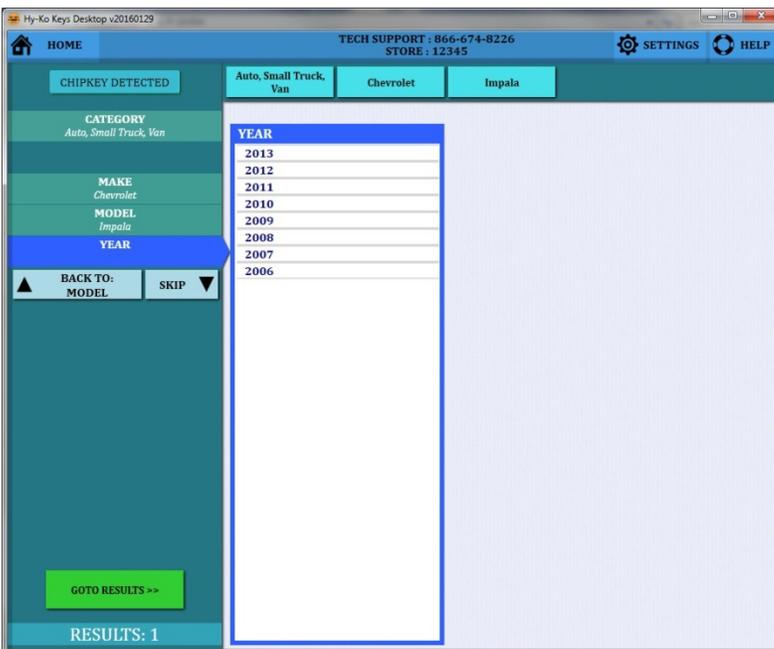

fig. 104
- Choose the Year by clicking on it from the list or by typing it in the ‘**YEAR**’ box on the left (see fig. 104).